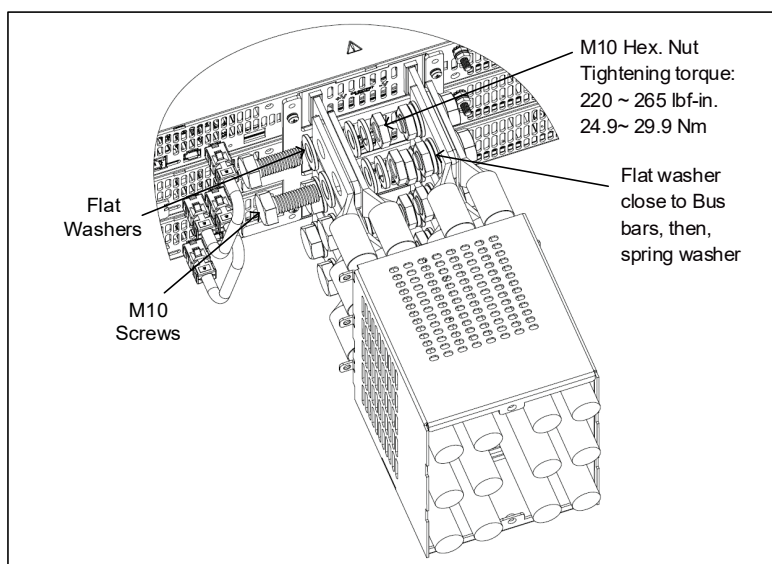

Figure 4-21: Assembly of 10V Wires
3. Fix the wires to the Bus bars as shown in Figure 4-21 (15kW is shown, it applies to 10kW as well).